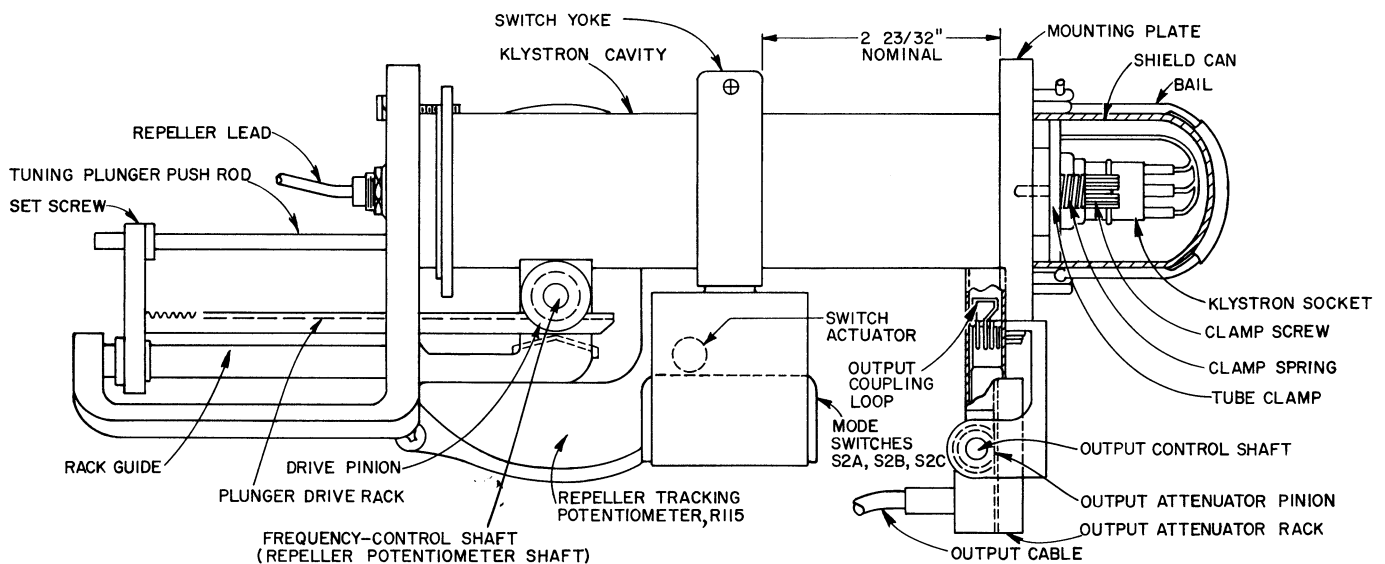

Figure 5-7. Mechanical features of klystron cavity (side view).
**5.7 MECHANICAL ALIGNMENT OF OSCILLATOR (See Figure 5-7).**